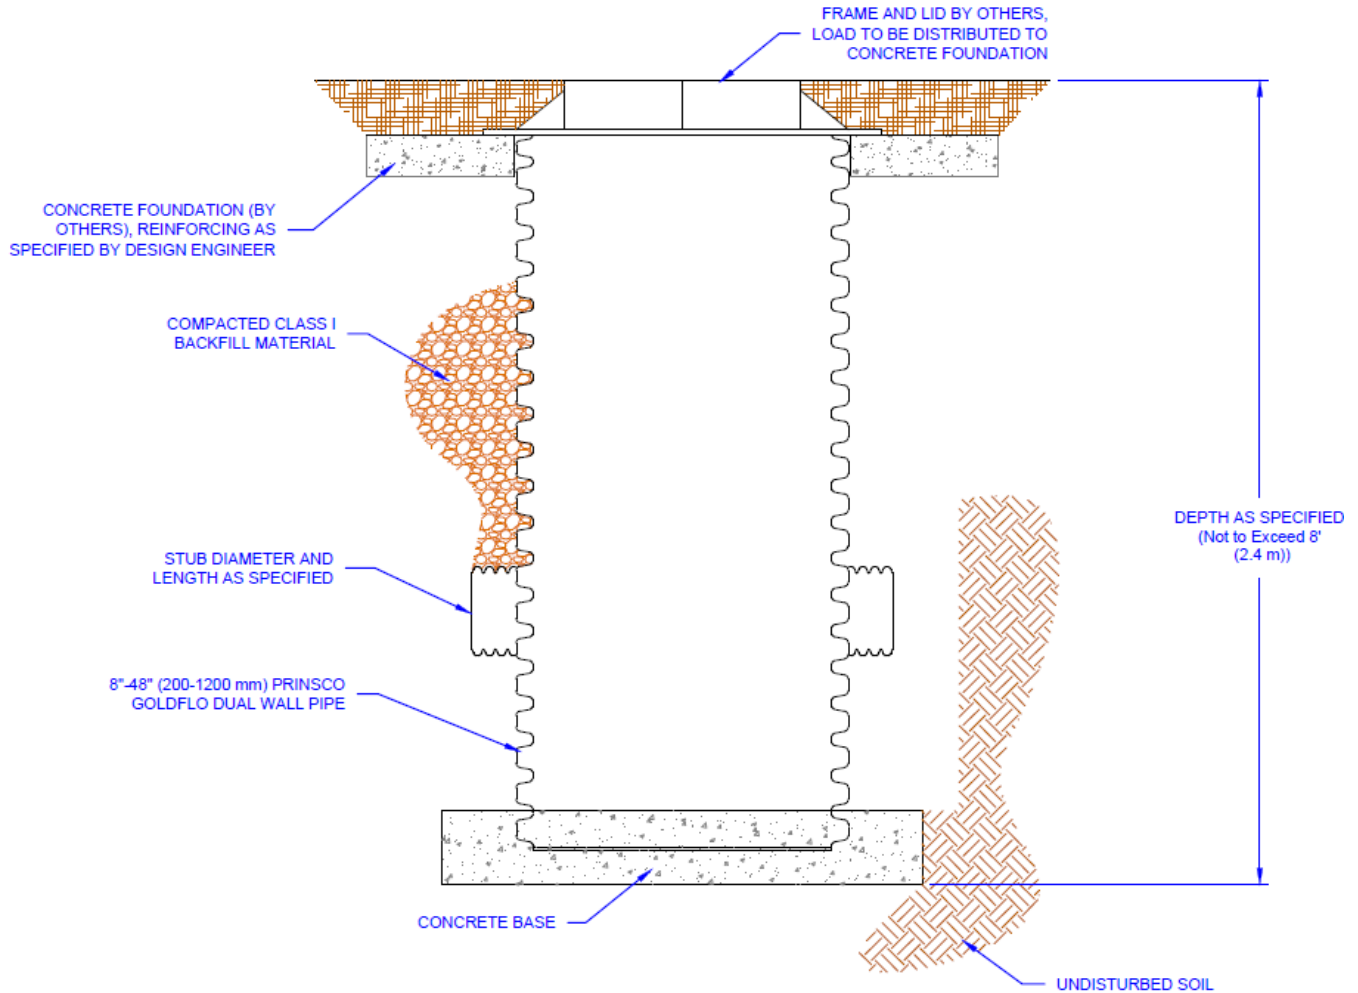

Figure 7: Typical Catch Basin
- Catch Basins with sumps, shown in Figure 7, can be installed upstream of the system to promote trapping the sediment and debris.